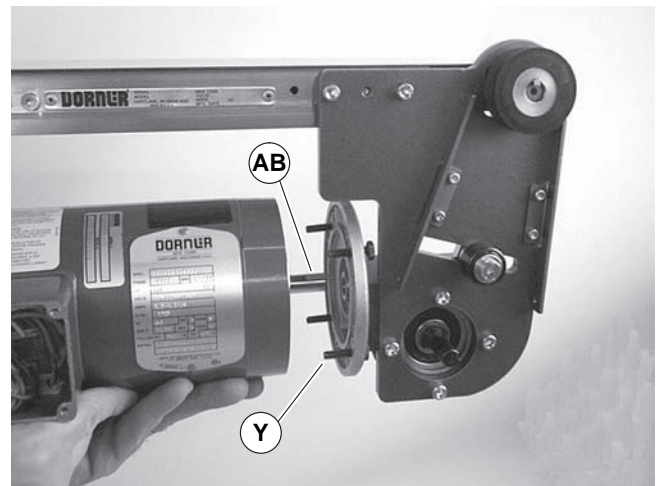

Figure 30
5. With key (Figure 30, item AB) in keyway, slide motor and gear reducer together. Install screws (Y) and tighten.